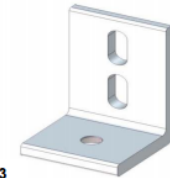

Figure 2: L-102-3
1. Brackets are shown in Figures 2, 5 and 6 of this report.